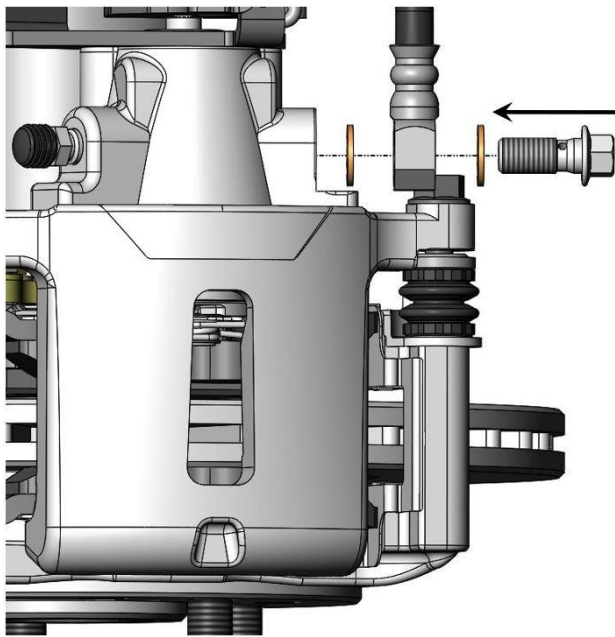
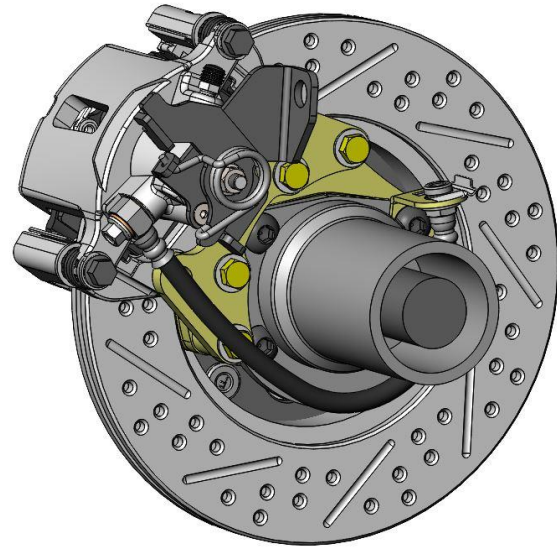

Figure 9a – Brake Hose Attachment to Caliper
Figure 9b – Brake Hose Attached at the Rear Axle Housing (DB3572BR LH Side Shown)
12. Install the flexible brake hose. Attach the brake hose to the caliper using the provided banjo bolt and copper crush washers as shown in Figure 9a on the next page. Next route the hose under the axle tube and attach it to the previously installed Brake Hose Mounting Bracket with the provided clip. Attach the hardline to the brake hose. **NOTE: Depending on the location and fitting size on the OEM hardline, it may be necessary to shorten and re-flare along with slightly bending the hardline to line up properly.** Proper installation of the flexible brake hose can be seen in Figure 9b on the next page.